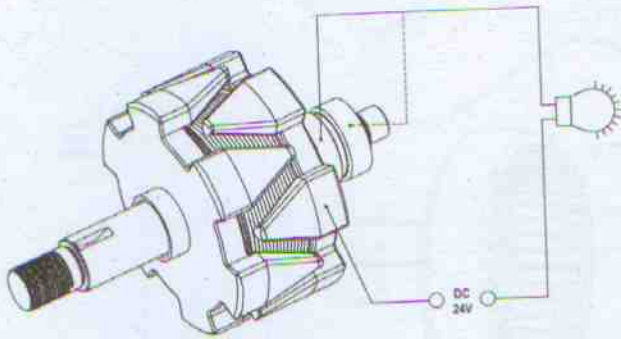

Fig. 1. Insulation Test - Rotor
7.01. Rotor : The flash test should be conducted between any slip ring and body with 110 Volts AC supply (refer fig. 1). The lamp should not glow, if it glows the winding insulation is defective and the Rotor should be replaced. The resistance between the slip rings should be as below.